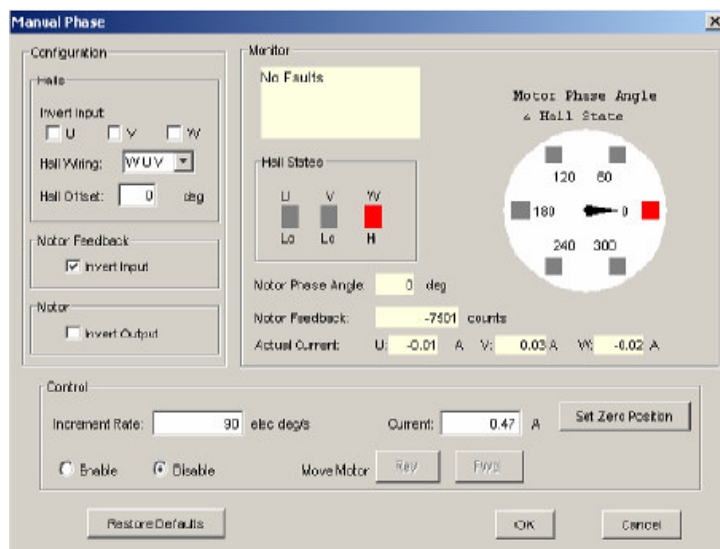

Fig. 24 Manual Phase
- h. Depending on user usage, proceed with the following Manual Phase and configure accordingly. In Fig. 4 Main Interface page, select Tools→Manual Phase, and Fig. 24 will appear.
1. If the red indicator change leads or lags the mid point more than  $30^\circ$ , then adjust the Hall offset value in Fig. 24 Configuration page (Detail shown in Fig. 27). Adjust until the red indicator change occurs at the mid point. (Please note, for LMS and LMT, the offset value is different in positive and negative direction. Please enter the average offset of the two directions.) Do not enter Hall offset more over  $\pm 30^\circ$ .